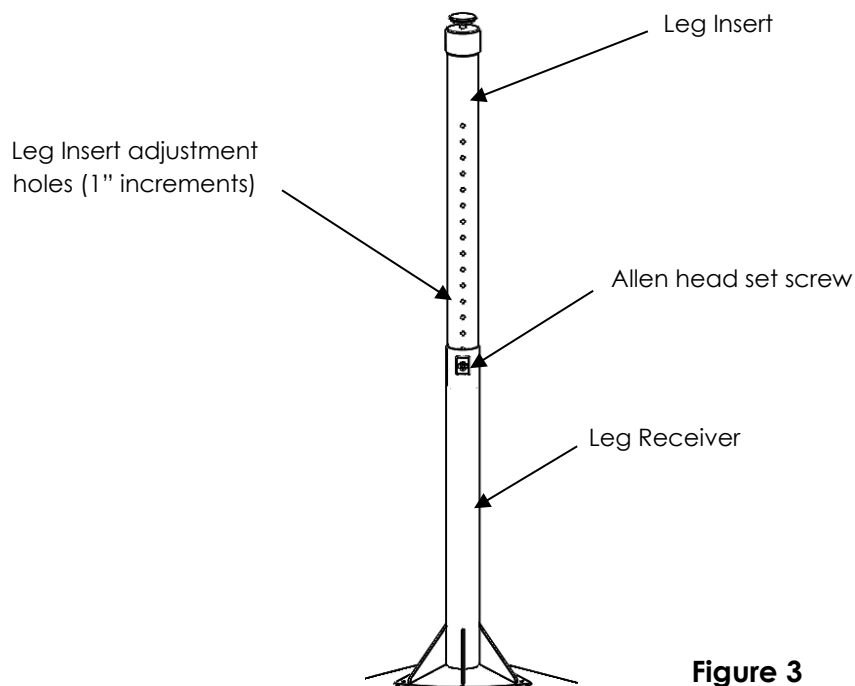

Figure 3
5. Install five (5) additional Philips head, #12 x1" screws provided in the hardware pack in the remaining holes.
6. Adjust leg to desired height by loosening the 3/16" Allen head set screw, sliding the leg insert in or out of the receiver until the desired height setting is reached. Retighten the 3/16" Allen head set screw ensuring that the corresponding hole in the Leg Insert aligns with the Allen head set screw. See Figure 3 below.